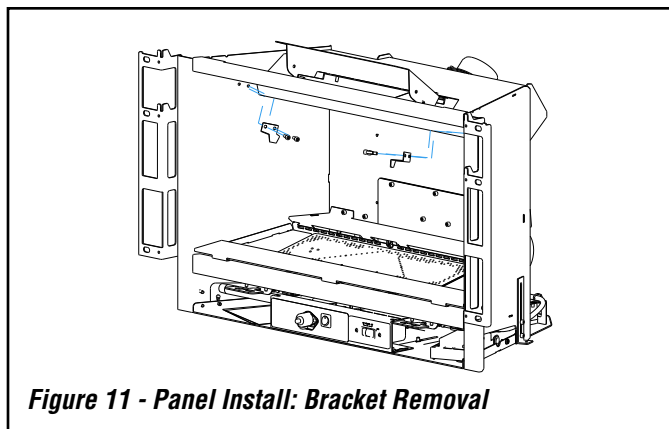

Figure 11 - Panel Install: Bracket Removal
2. Remove the two brackets from the firebox using a 5/32" allen wrench (see **Figure 11**). Retain the screws for step 4, and discard the brackets as they will not be needed.